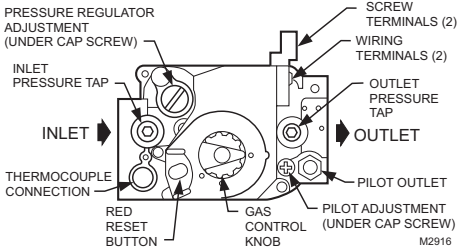

Fig. 5. Top view of gas control
3. Unscrew compression fitting from the pilot outlet (Fig. 5). Slip the compression fitting over the tubing and slide out of the way.
2. Connect control circuit to gas control terminals. See Figs. 5 and 8.
1. Remove the pilot adjustment cover screw. Refer to Fig. 5.